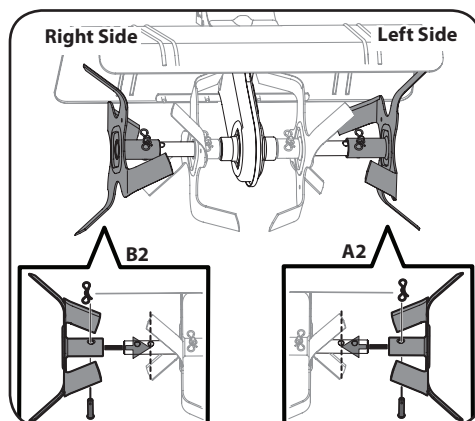

Figure 3-2
- Use two clevis pins and two cotter pins from the manual bag. From the FRONT of the tiller install the outer LH tines (A2) onto the outer left side of the shaft. Install the outer RH tines (B2) onto the outer right side of the shaft. See figure 3-2.